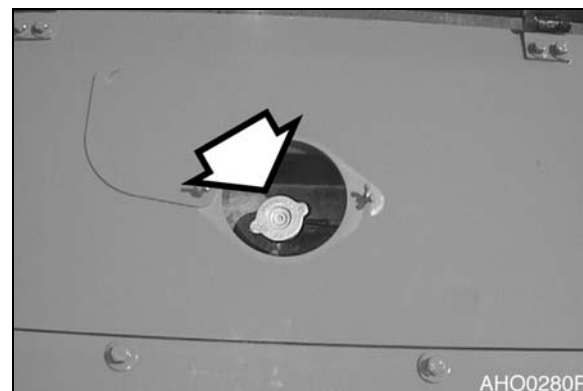

Figure 87
1. Slowly open the radiator cap (Figure 87) to allow any pressure to escape.